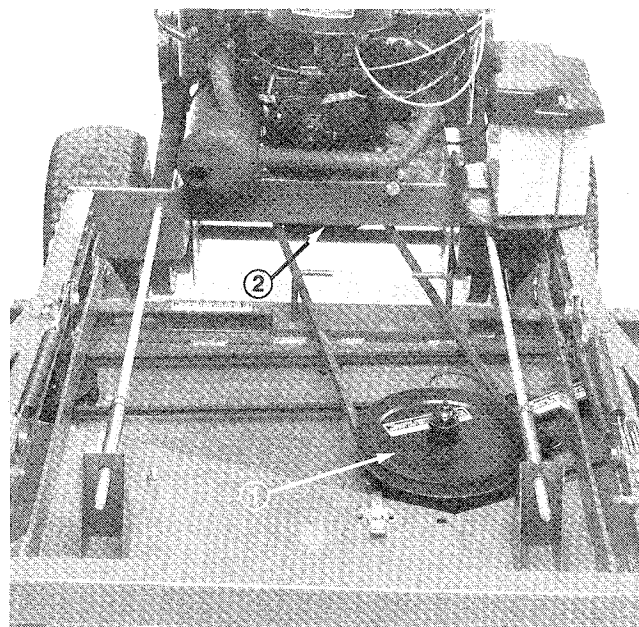

Figure 4
1. Route belt around deck drive pulley and engine clutch pulley (Fig. 4). Make sure belt is between belt guides.